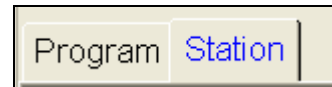

Figure 16.2.1A
- In the **“Controller Schedule”** screen click on the **Station** tab (Figure 16.2.1A).